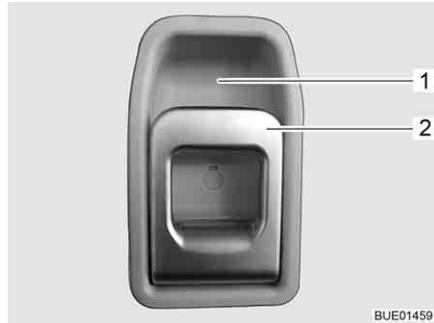

Fig. 29 Door lock of conversion door, inside
- Opening:* ■ Pull on the handle (Fig. 29,2). The door lock is unlatched.
- Locking:* ■ Press the upper part of the handle (Fig. 29,2) in the direction of the recessed handle (Fig. 29,1).